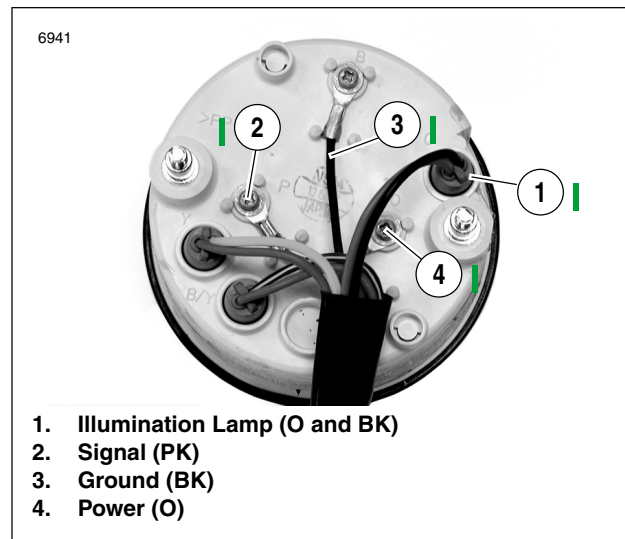

Figure 7-92. Tachometer Wiring (Typical)
5. See Figure 7-92. Remove wires from tachometer.
- c. See Figure 7-92. Insert illumination lamp (1) into its bore.